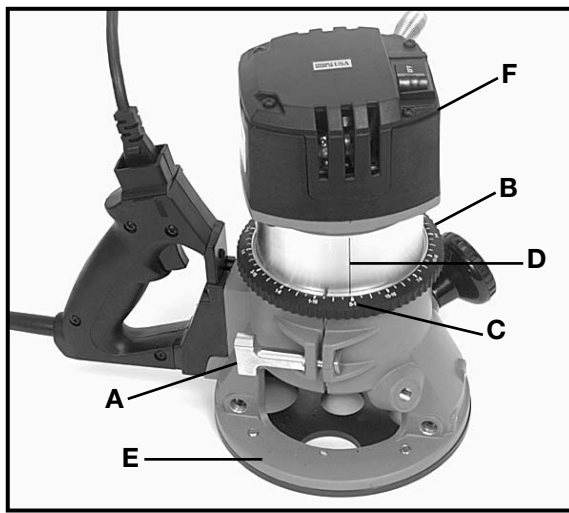

Fig. 5
2. Loosen clamp screw (A) Fig. 5.
3. While holding base (E), turn motor unit (F) Fig. 5 **COUNTERCLOCKWISE** until the tip of the bit is above bottom surface of base.
5. Turn motor unit (F) Fig. 5 CLOCKWISE until bit touches the wood surface.
6. Tighten clamp screw (A) Fig. 5.
7. Rotate depth adjusting ring (B) Fig. 5 until the zero-line (C) is opposite the index line (D) on the housing.
8. Loosen clamp screw (A) Fig. 5.
9. Tip the router so bit is clear of the wood surface. Turn motor unit (F) Fig. 5, CLOCKWISE until the index line (D) on the motor housing reaches the desired depth indicated on the ring.
10. Tighten clamp screw (A) Fig. 5 firmly.